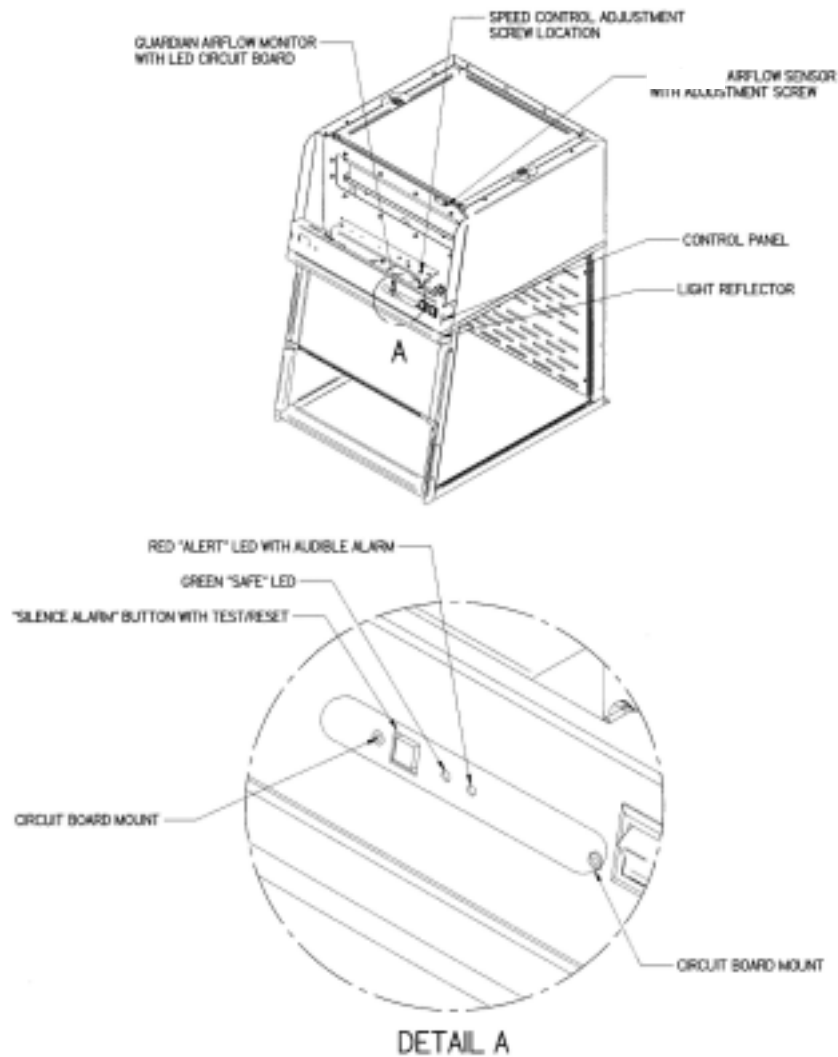
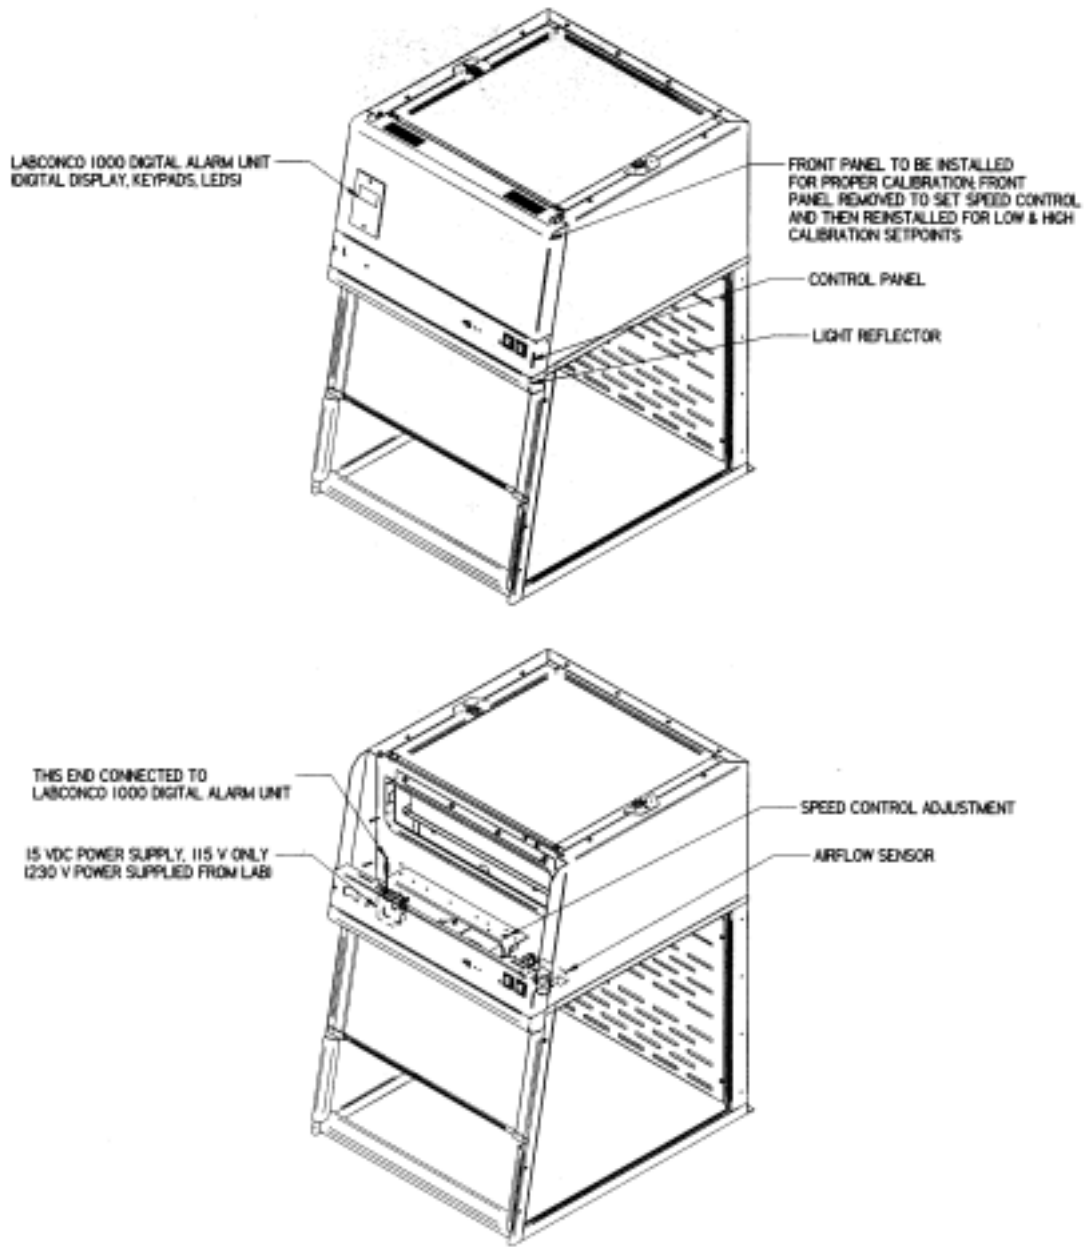

Figure 6-2
Figure 6-3
Refer to Figure 6-2 for operation and calibration.
Refer to Figure 6-3 for operation and calibration. Refer to the separate Labconco 1000 Alarm Manual for detailed information.
2. Locate the small light reflector located under the control panel shown in Figure 6-2 and Figure 6-3.